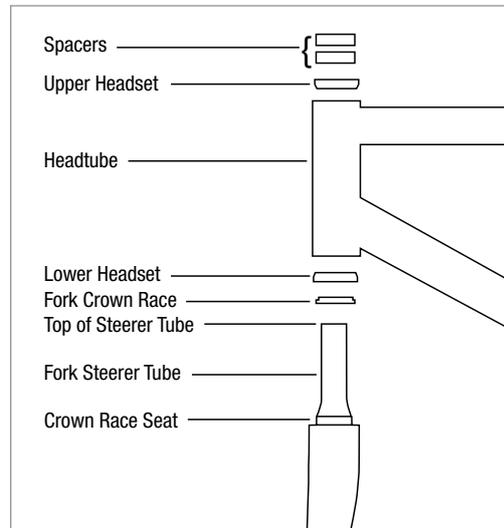

Figure 3
- 5. Install the bottom assembly of the headset per manufacturer's instructions and insert the fork into the headtube. Install the upper headset by following the manufacturer's instructions (Fig. 3).**